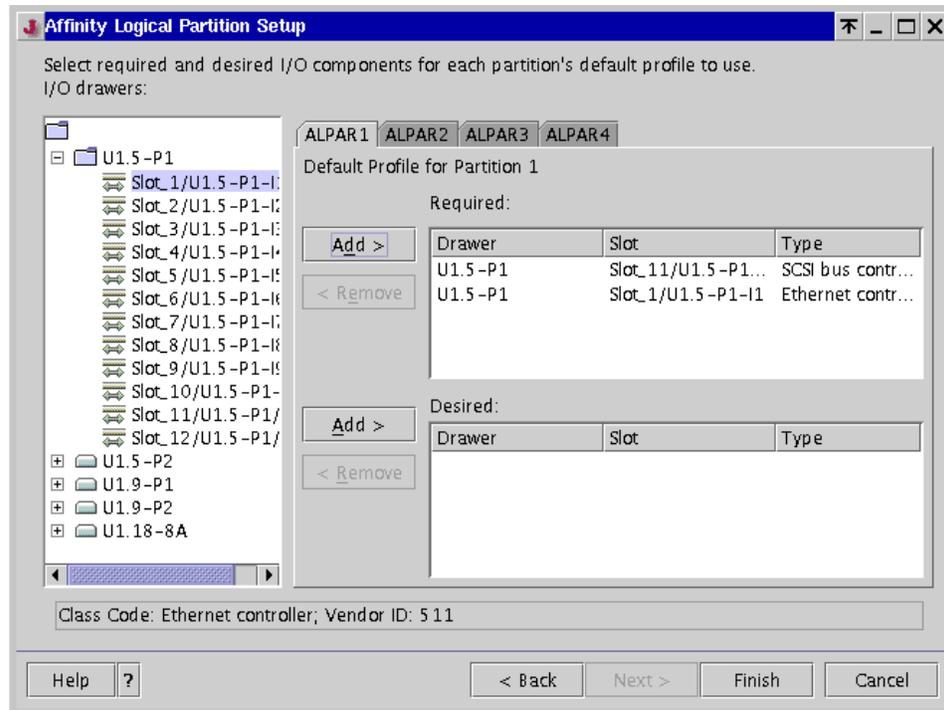

Figure 6-16 ALPAR assigning I/O slots
- Assign I/O slots (adapters) to all affinity logical partitions, as shown in Figure 6-16. Click **Finish**.